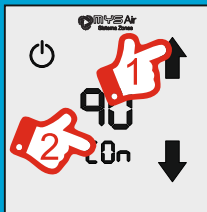

Fig. 10
- 1) With the thermostat OFF, press and hold the **OFF** icon on the screen (Fig.10) until the display shows "00" flashing and the **CO_n** icon on the bottom of the screen.
- 2) To activate the WIFI configuration, select "90" with the **↓↑** icons (Fig.10). Press again on the **CO_n** icon to confirm (Fig.10).